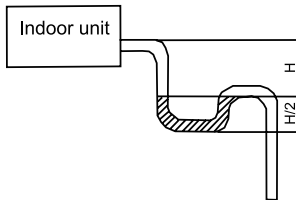

Fig.24
- (4). When the drain hose cannot keep a sufficient gradient, it is necessary to fit a riser pipe (field supplied) to it.
- (5). If the air flow of indoor unit is high, this might cause negative pressure and result in return suction of outdoor air. Therefore, U-type water trap shall be designed on the drainage side of each indoor unit.(Fig.24)
- (6). Install one water trap for each unit.
- (7). Installation of water trap shall consider easy cleaning in the future.